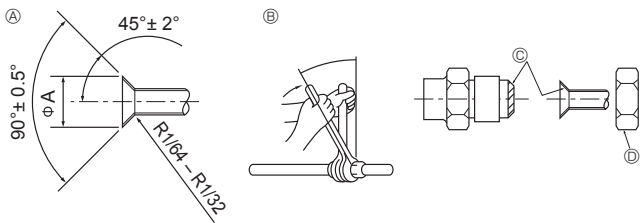

Fig. 3-1
3.1. Connecting pipes (Fig. 3-1)